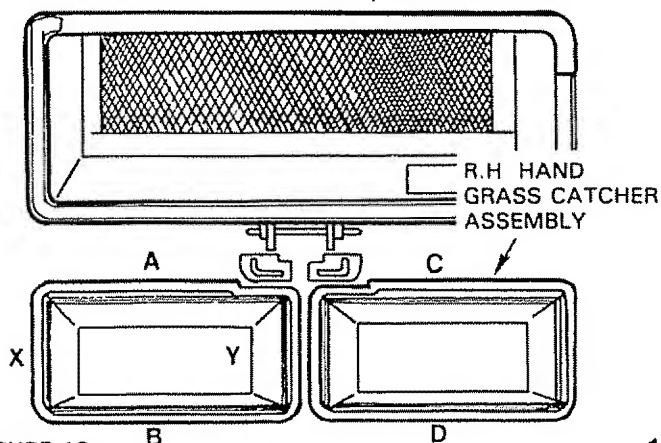

FIGURE 16
- b. Remove L.H. grass catcher assembly. Stand at position "X" and grasp grass catcher at points "A" and "B" and lift off (Fig. 16).